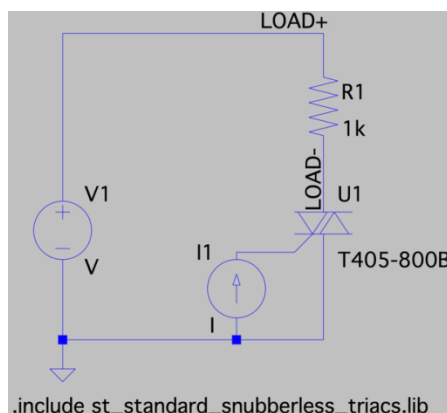

Fig. 6.3. Circuit for TRIAC Characteristic Curve (positive terminal voltages).
1. Construct the circuit shown on Fig. 6.3. Don't forget to include the library model file of the TRIAC and DIAC. (Use the .include directive)